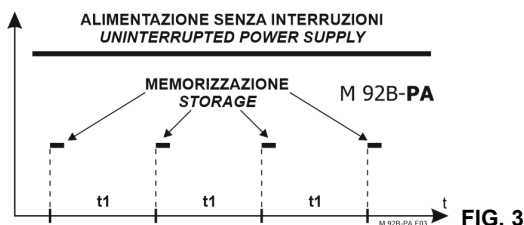

FIG. 3
- 1) without daily interruption (Fig. 3)